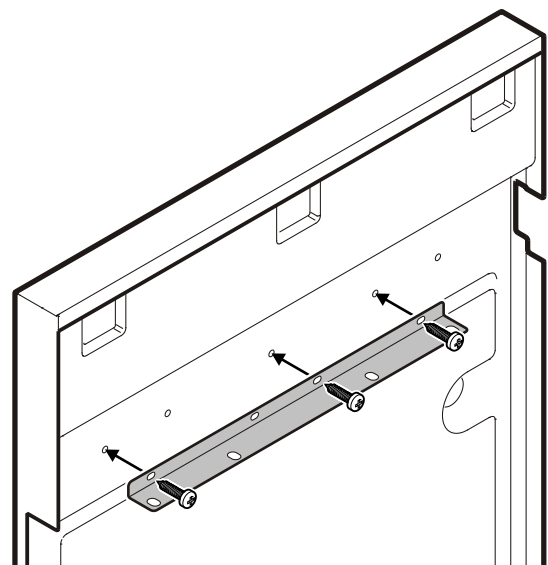

Figure 20
3. Fasten the attachment bracket onto the panel for the left refrigerator door using 4 x 16 mm screws (**Figure 20**).